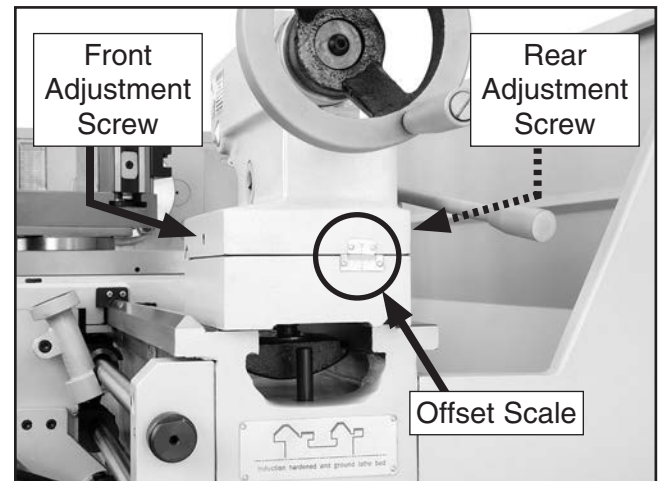

Figure 37. Tailstock off-set adjustments.
By offsetting the tailstock, the dead center can hold a workpiece at a particular away from the spindle centerline so tapers and pipe threads can be cut. For a quick visual tool in keeping track of tailstock movement, an offset scale (see **Figure 37**) with arbitrary increments is located at the rear of the tailstock. However, to achieve exact taper angles, or to adjust the tailstock back into the spindle centerline, angle gauges and a test indicator must be used.
2. Using a 4mm hex wrench, loosen one of the front or rear adjustment screws shown in **Figure 37**.